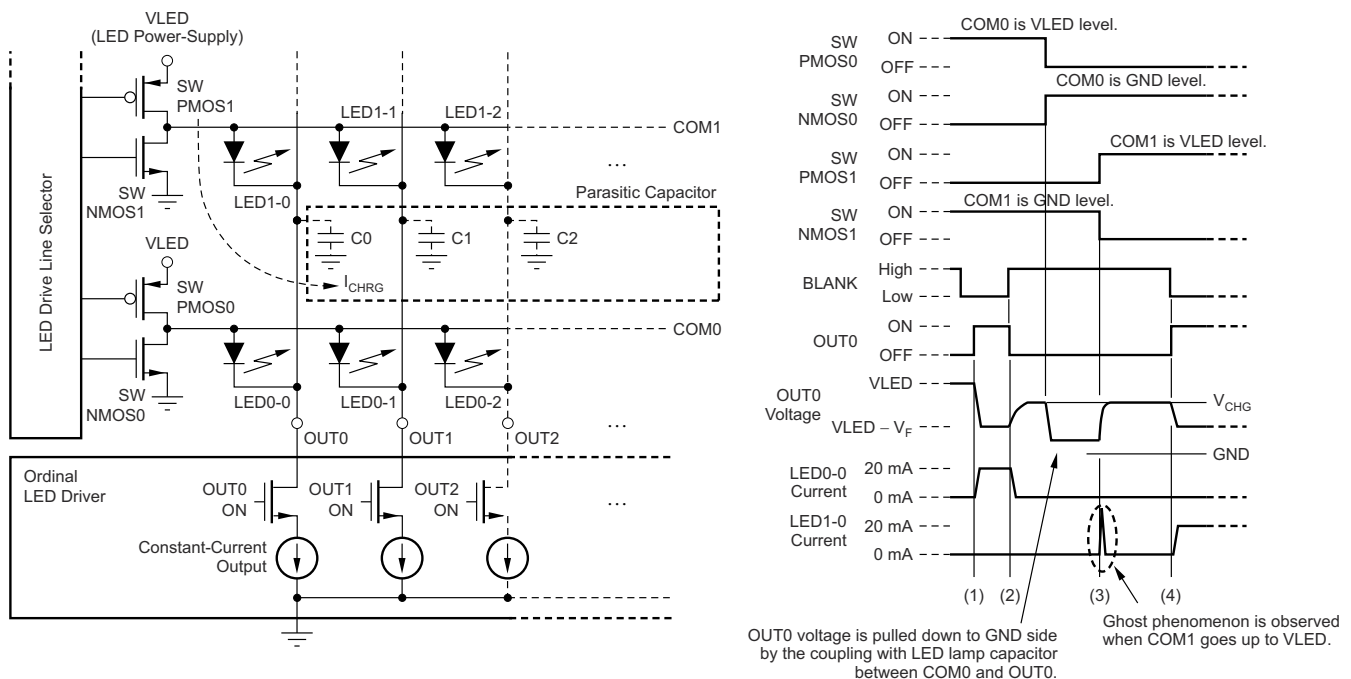

Figure 7-1. LED Ghost-Lighting Phenomenon Mechanism
The internal pre-charge FET prevents ghosting of multiplexed LED modules. One cause of this phenomenon is the parasitic capacitance charging current of the constant-current outputs (OUT_n) and PCB wiring connected to OUT_n through the LED. One of the mechanisms is shown in Figure 7-1.
In Figure 7-1, the constant-current driver turns LED0-0 on at (1) and off at (2). After LED0-0 is turned off, the OUT0 voltage is pulled up to V_{CHG} by LED0-0. This OUT0 node has some parasitic capacitance (such as the constant-current driver output capacitance and the board layout capacitance shown as C0-2). After LED0-0 turns off, SWPMOS0 is turned off, SWNMOS0 is turned on for COM0, and COM0 is pulled down to GND. Because there is a parasitic capacitance between COM0 and OUT0, the OUT0 voltage is also pulled down to GND. Afterwards, SWPMOS1 is turned on for the next common line (COM1). When SWPMOS1 turns on, the OUT0 voltage is pulled up from the ground voltage to V_{LED} – V_F. The charge current (I_{CHRG}) flows to the parasitic capacitor (C0) through LED1-0, causing the LED to briefly turn on and creating a ghosting effect of LED1-0.